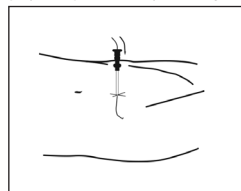

Figure 2
**Note: If wire does not initially advance with ease, catheter most likely has not been placed properly within peritoneal cavity (refer to Figure 2).**